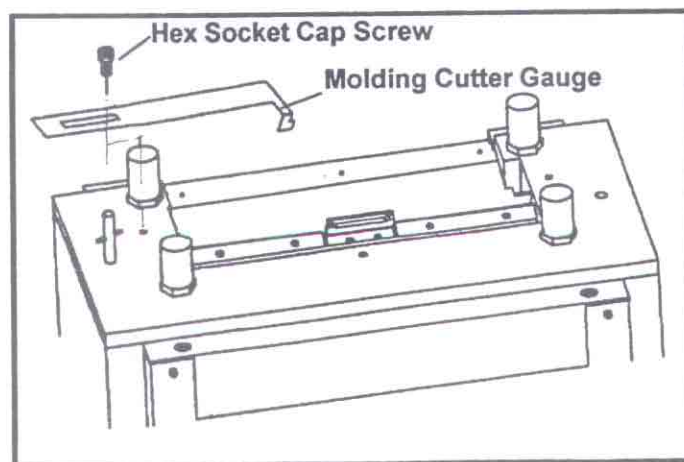

Fig. 15
8. Install molding cutter gauge with hex socket cap screw and tighten to hold in place. The guide may be attached to either side. See Fig. 15.